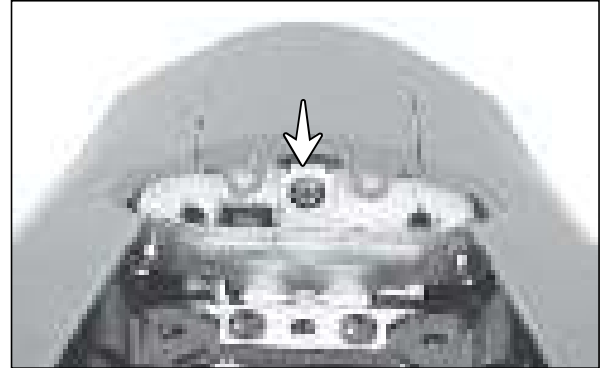

Fig. 2.29
- Remove the CRR pan head screw (M6x16 - 1 No.) from the tail cover center rear. (Fig. 2.29)